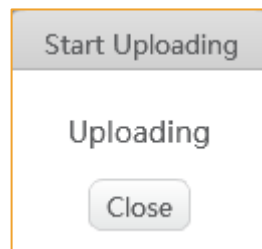
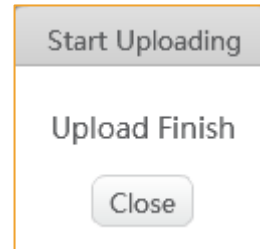

Figure 2-16
Figure 2-17
- 2) Click on the mouse block in the script area. The program code of the corresponding building block will appear on the right side of the building block. Click “Upload to MotorDriverBoard” to start generating the offline code of the building block and upload it to the MotorDriverBoard robot. The prompt window “Uploading” will appear on the screen, as shown in Figure 2-16; After the upload is complete, prompting “Upload Complete”, as shown in Figure 2-17;